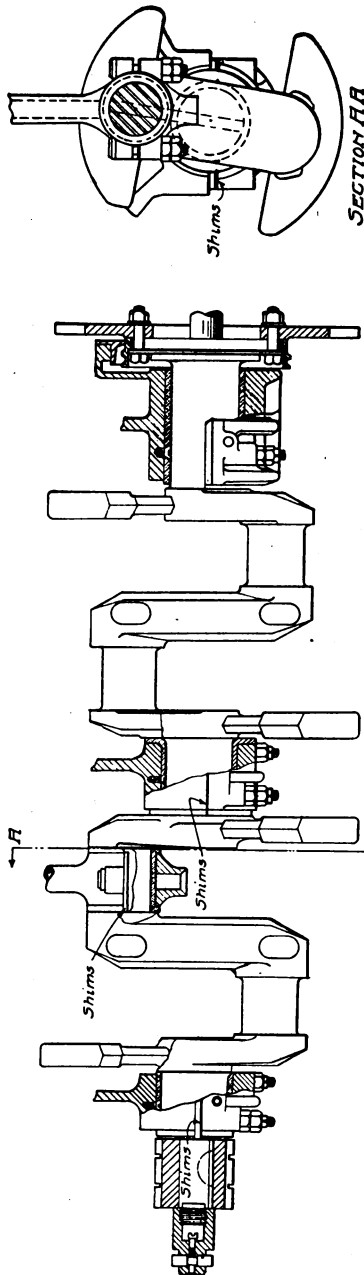
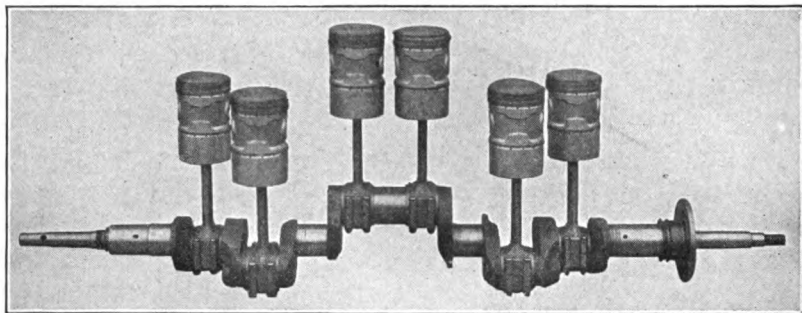
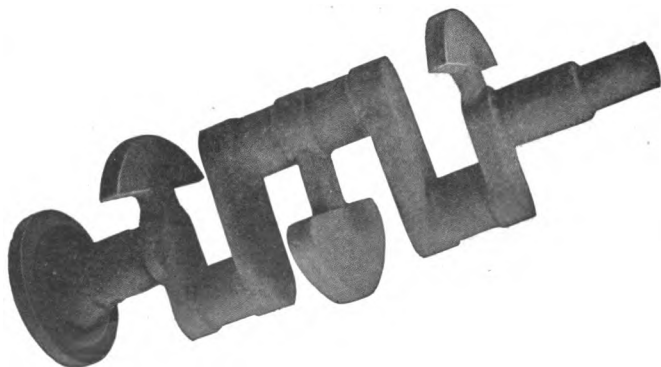

Fig. 66. Four-Cylinder Three-Bearing Balanced Crankshaft
Fig. 67. Six-Cylinder Four-Bearing Crankshaft with Pistons and Connecting Rods Assembled
Fig. 68. Typical Drop-Forged-Balanced Crankshaft
As the repair man knows crankshafts today, they are of two kinds. The first is the four-cylinder form, in which all throws are in a single plane. This type of shaft has four pins, one for each connecting-rod big-end bearing. It may have either three bearings, as shown in Fig. 66, or five bearings. The second type, which the repair man is likely to meet, is the six-cylinder shaft, which will have six pins for connecting rods; these are grouped in pairs, and each pair in a different plane, the angle between them being 120 degrees. This type of shaft may have either four or seven bearings. In the four-bearing form, there is a bearing at each end, and another between each pair of cylinders, as shown in Fig. 67, with pistons and con-
**Balanced Crankshafts.** While not an assembled shaft in the sense just referred to, the balanced form is meeting with great favor, and is being widely adopted. This will be met by the repair man in two forms. One is like Fig. 66, except that the weights are machined to fit on the crank cheeks and bolted there. The repair man should not remove these unless it is absolutely necessary, as they vary in size and weight. They are fitted in place with extreme care and fastened extremely well. The other type—the kind being introduced into the latest models—has its counterweights forged as a part of the crankshaft, Fig. 68. In this type, the weights are adjusted to make the proper balance when the shaft is being machined.
In Fig. 66, the end view shows both connecting-rod and crankshaft bearing shims in place, and indicates how they perform their function of holding the halves of the bearing apart when the bearing is being fitted.